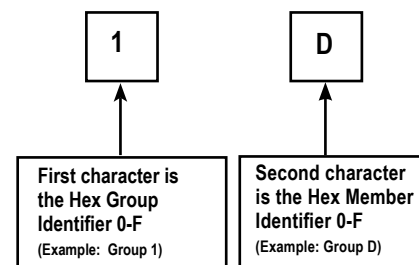

Figure 55: Central Control Address Nomenclature
- Hex Groups are limited to 16 members (see Figure 55).